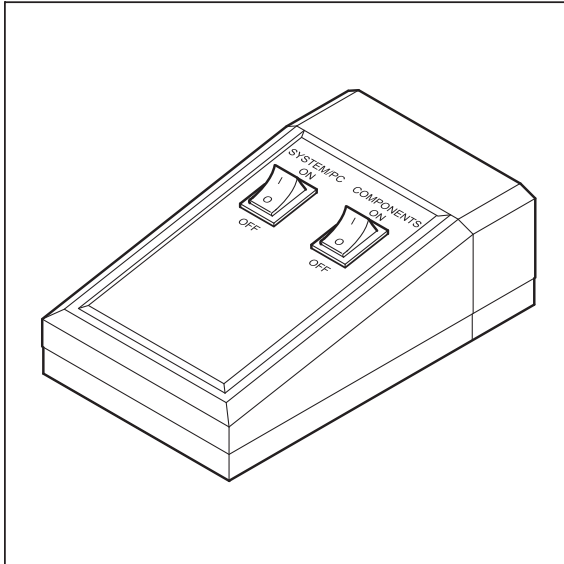

Fig. 1 REMOTE CONTROL switch
- When set to **ON** the REMOTE CONTROL switch labeled **System/PC** provides power to the computer. This allows use of the computer and ZEN software offline (Fig. 1).